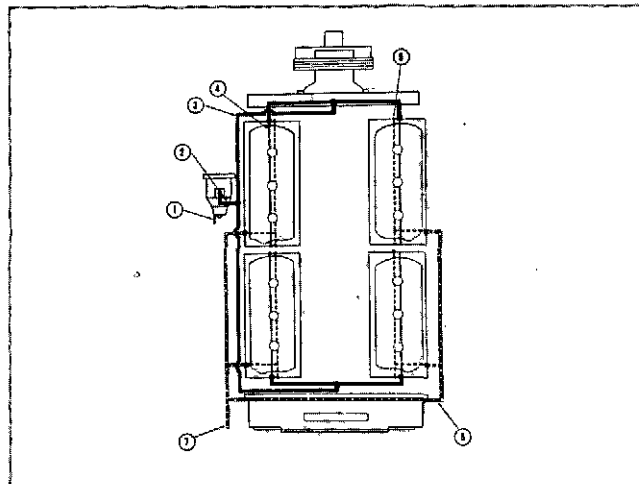

Fig. 14-1-64, V40047, Fuel lines and passages
1. Install fittings in lower (fuel inlet) drilling at end of each cylinder head. Fig. 14-1-64. Lines illustrated are:
- a. Fuel inlet from filter (1).
- b. Fuel pump outlet (2).
- c. Fuel supply lines (3).
- d. Fuel drain lines (6).
- e. Fuel return to tank (7).
- f. Injector inlet (4) and drain (5) are drilled passages in cylinder head.
4. Install drain fittings in side of each cylinder head. Fig. 14-1-64.